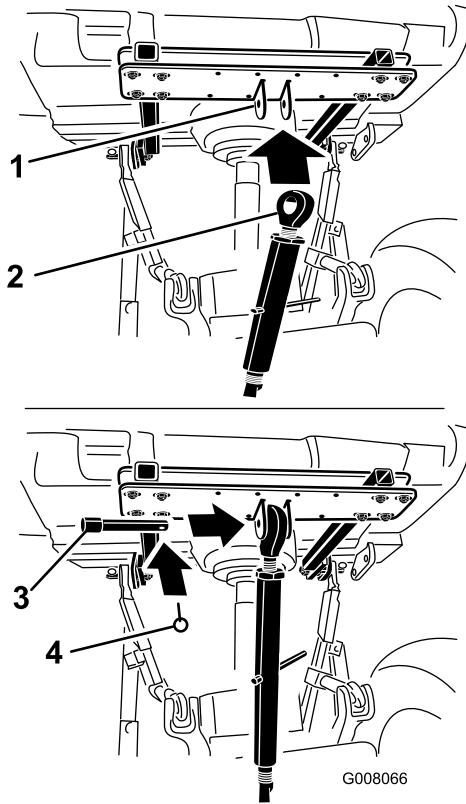

Figure 8
- Connect the hitch upper link to hitch cross tab and secure with link pin and lynch pin (Figure 8).